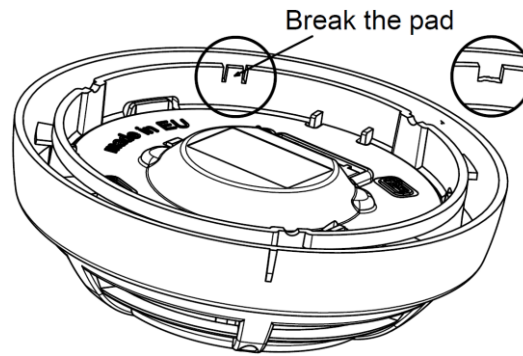

Fig.3
- Break the plastic at the specified location on the bottom of the sensor ( Figure 3 ).